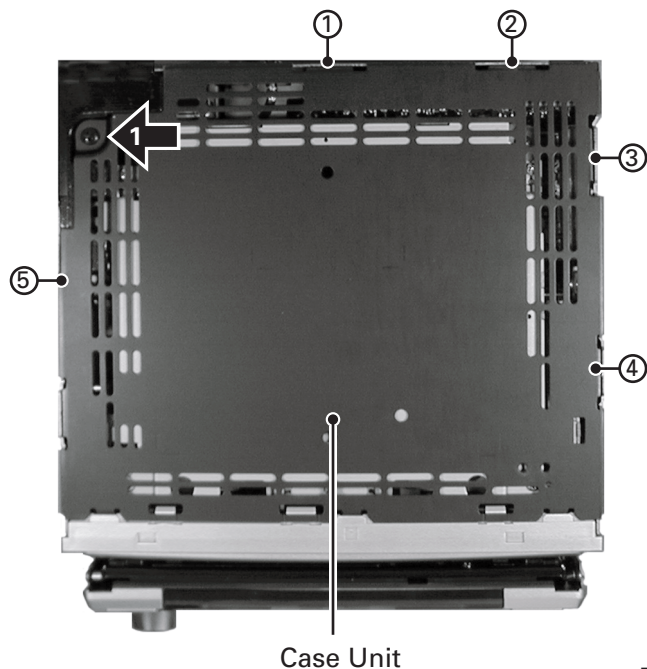

Fig.1
● **Removing the Case Unit (Fig.1)**
*) Release the latches in order of the number indicated in Fig.1.